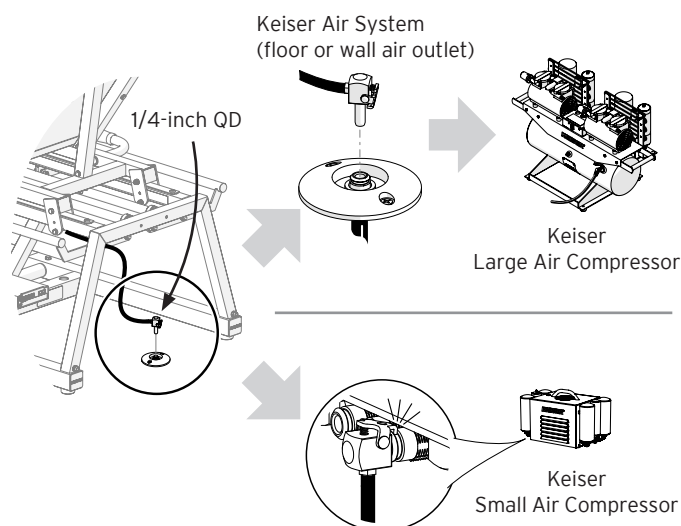

Figure 3. How to Connect the Equipment to the Keiser Air System
2. Connect the 1/4-inch Quick Disconnect (QD) from the equipment to an Outlet in the Keiser Air System (see Figure 3).